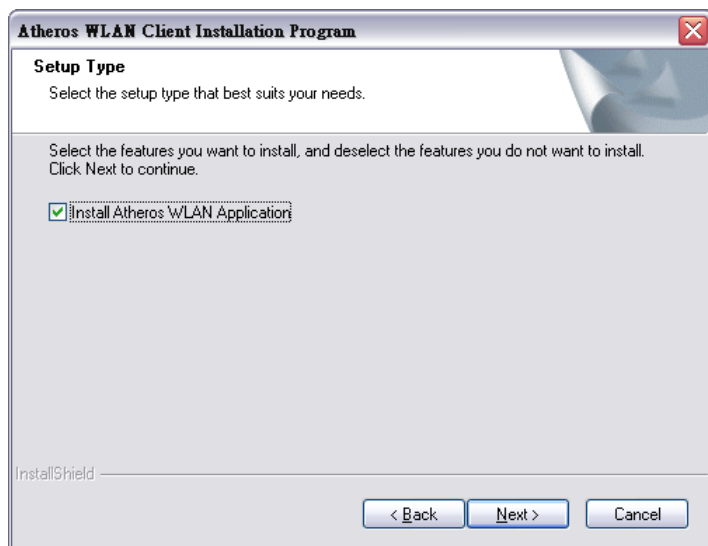

Figure 6-31: Wireless Driver – Setup Type
Step 6: The screen in **Figure 6-31** appears next. Click **Next** to continue.